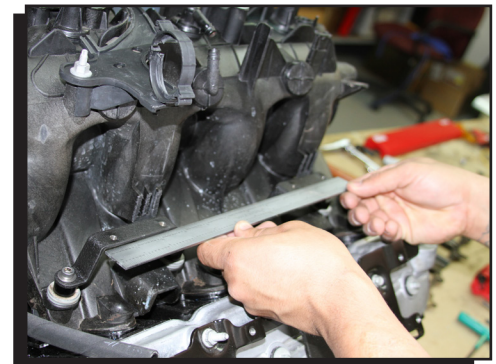

Figure 12 Straight Edge Check of Brackets.
14. Check the rail brackets with a straight edge (Figure 12).